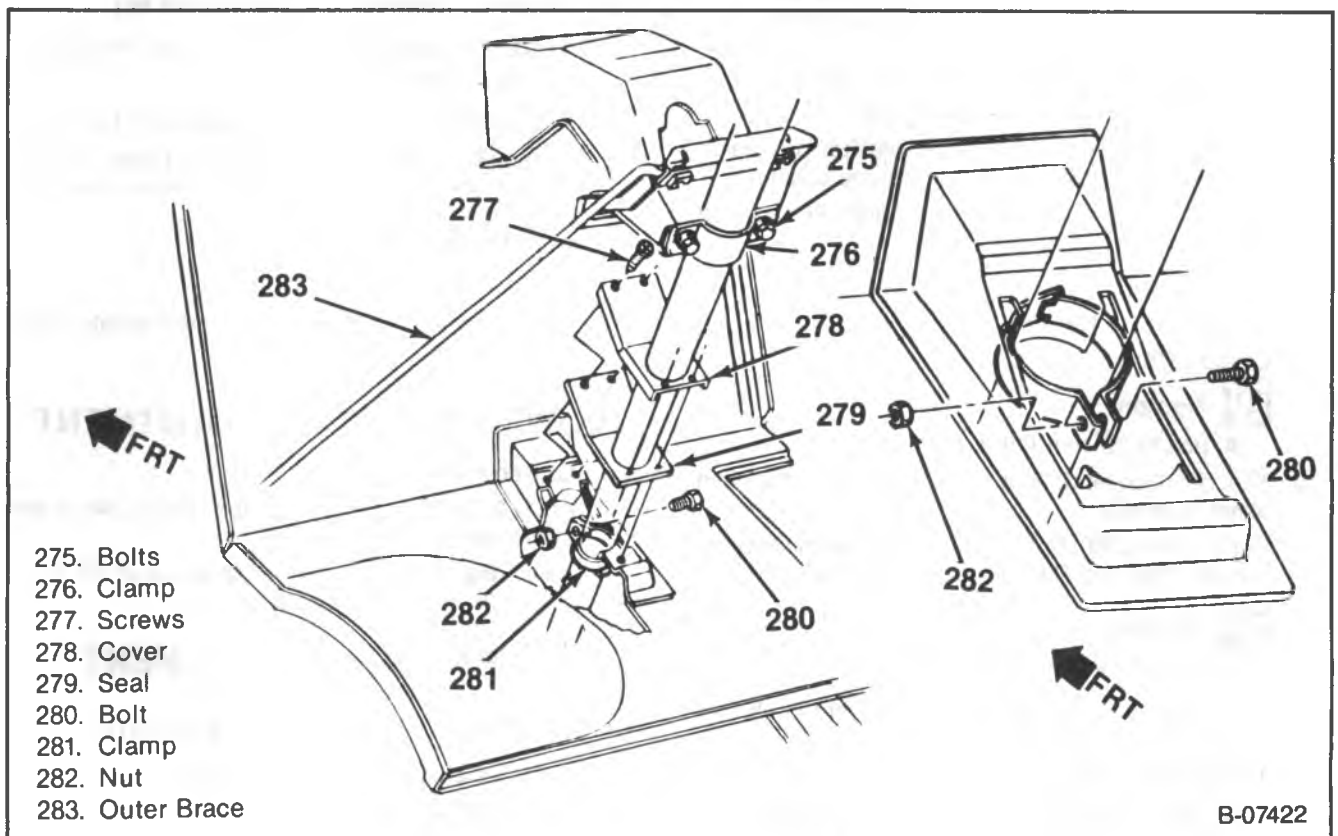

Figure 48 — Steering Column Installation — P-Model; except Motorhome
Remove or Disconnect (Figure 48)
Install or Connect (Figure 48)
- Align the seal (279) and cover (278) with the floor and dash panel assembly.
3. Clamp (281), bolt (280) and nut (282). Position the clamp as shown in figure 48.